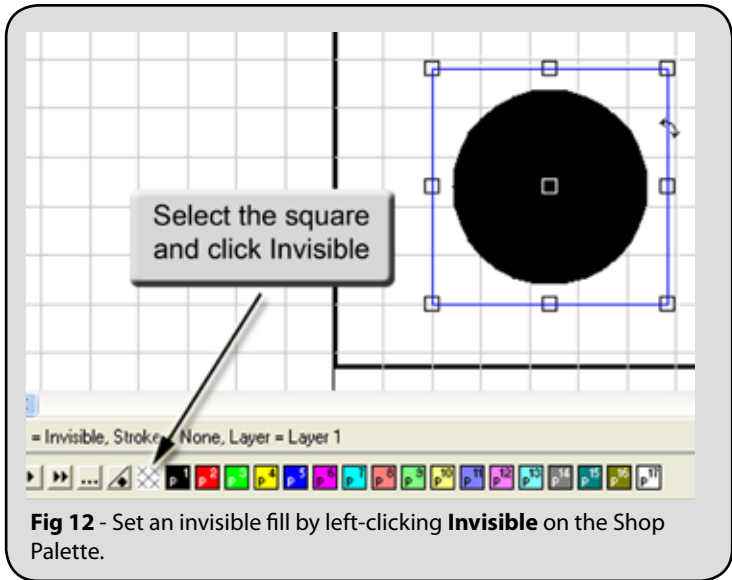

Fig 12 - Set an invisible fill by left-clicking **Invisible** on the Shop Palette.
4. Draw a square shape around the circle and assign an **Invisible** fill to the square. (Fig. 12)